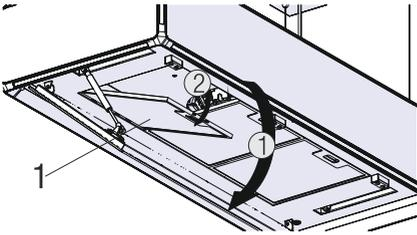

Fig. 36: Removing the metal oil filters
1. ➤ Open the side aspirator (Fig. 36/1).
3. ➤ Open the lock of the metal oil filter (Fig. 36/2) and ensure that it will not fall.
4. ➤ Tilt the metal oil filter forward and lift it out (Fig. 36/3).